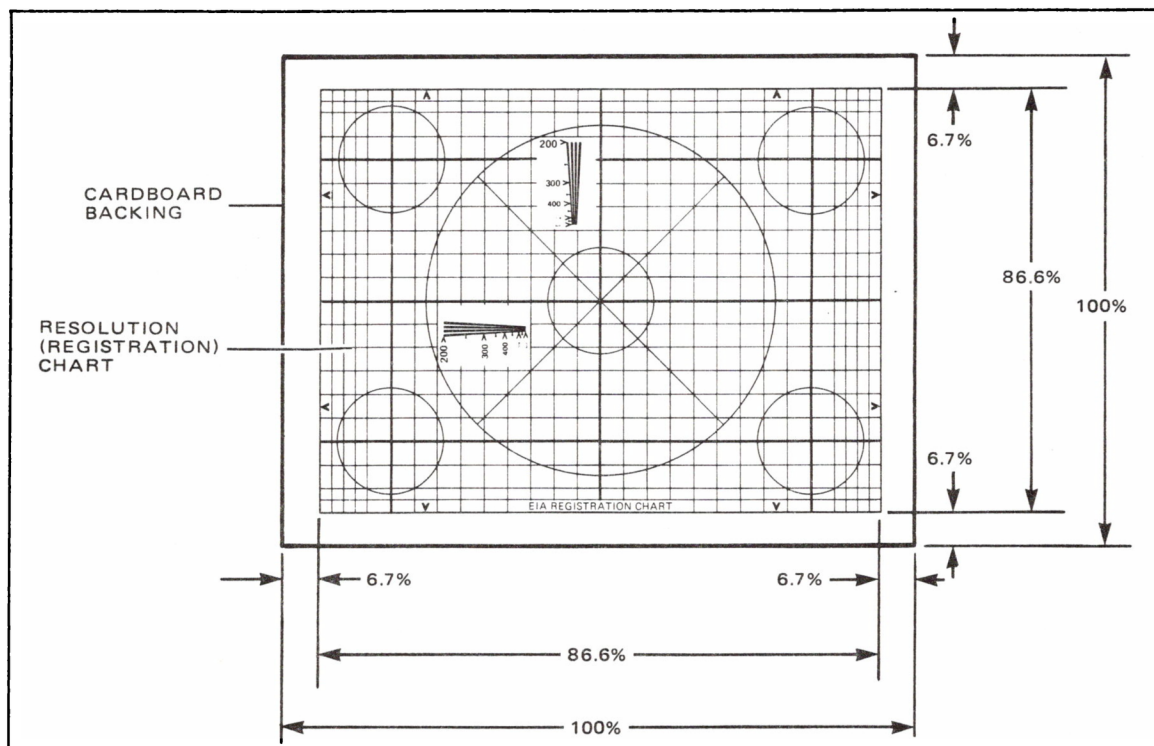

Figure 5-34. Mounted Resolution Chart
STEP 2 Set CAM+VTR/CAM/OFF to CAM. Shoot an EIA resolution chart mounted on a piece of cardboard larger by 6.7%, as shown in Figure 5-34.